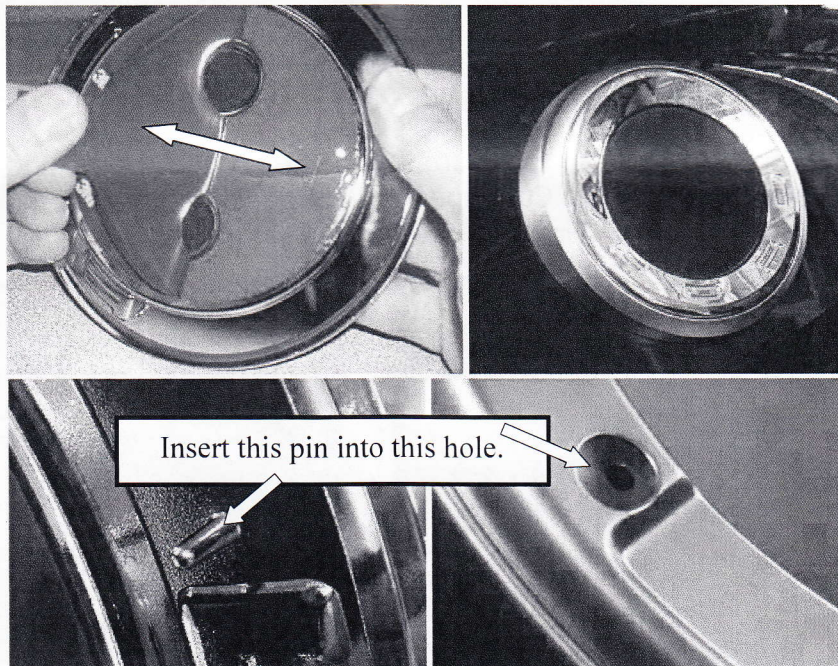

Figure 7
8. Peel the red backing paper from the Die Cut Tape and apply the chrome ring to the dome badge base. Refer to Figure 7. Ensure the pin on the back of the chrome ring aligns to the hole on the edge of the base. This will center the FORD logo. Apply firm pressure to the center and outward for a tight bond.